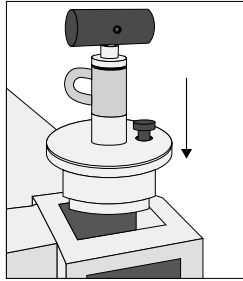

Figure 1
- Place the Twist anchor in the pocket of the container. (Figure 1)